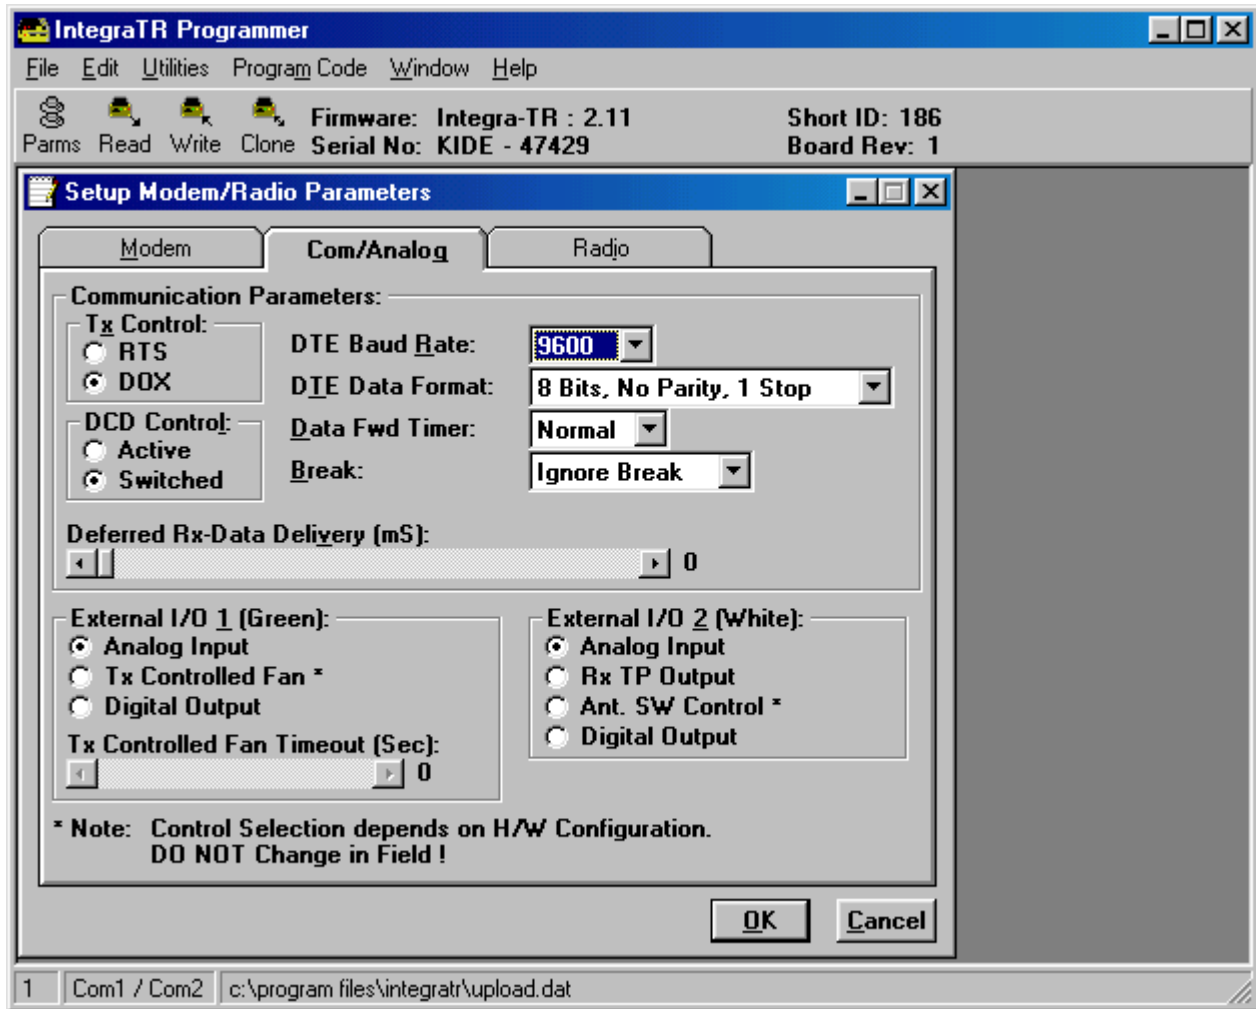

Figure 4. Com/analog parameters setup window
- i. Next, click on the Com/Analog tab in the Modem/Radio Parameters window (Figure 4). Select the desired radio communications baud rate. For details on these settings, please see the INTEGRA technical manual section 2.4.4.3.
- j. Lastly, click on the Radio Tab to program the frequency (Figure 4). Enter the RX/TX frequencies and the power. A power value of 255 is equivalent to 5 W power. Click OK to save all parameter settings. For details on these settings, please see the INTEGRA technical manual section 2.4.4.4